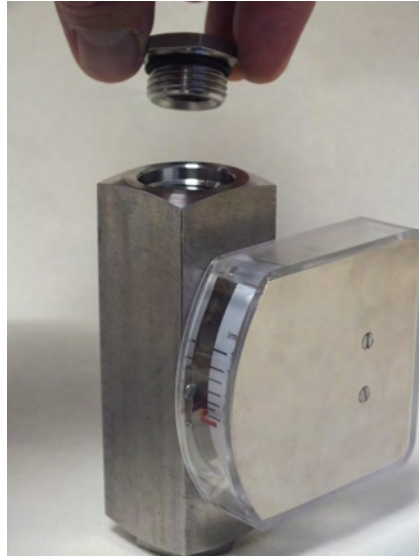

Fig. 59: Insert process connection (outlet)
- 10.** ➤ Insert the process connection (outlet) into the device body (outlet) (Fig. 59)